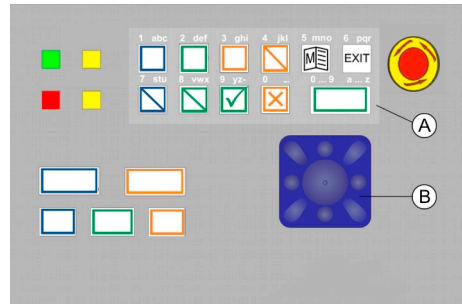

Fig. 55: Function keys and navigator
- ▷ Enter your login data by using the function keys **A** and the navigator **B** (see Fig. 55).